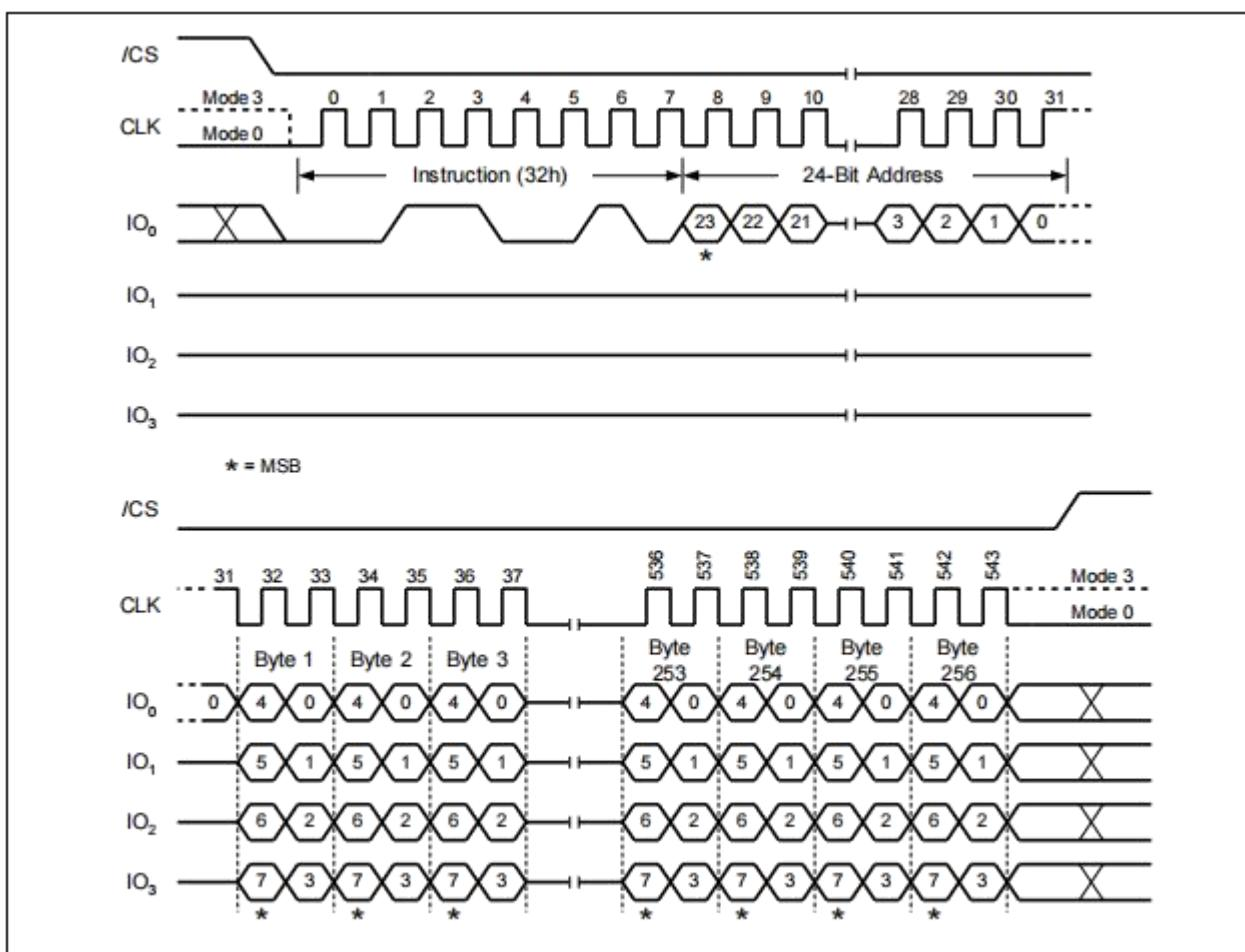

Figure 18. Quad Input Page Program Instruction
To use Quad Page Program the Quad Enable (QE) bit in Status Register-2 must be set to 1. A Write Enable instruction must be executed before the device will accept the Quad Page Program instruction (Status Register-1, WEL=1). The instruction is initiated by driving the /CS pin low then shifting the instruction code “32h” followed by a 24-bit address (A23-A0) and at least one data byte, into the IO pins. The /CS pin must be held low for the entire length of the instruction while data is being sent to the device. All other functions of Quad Page Program are identical to standard Page Program. The Quad Page Program instruction sequence is shown in Figure 18.